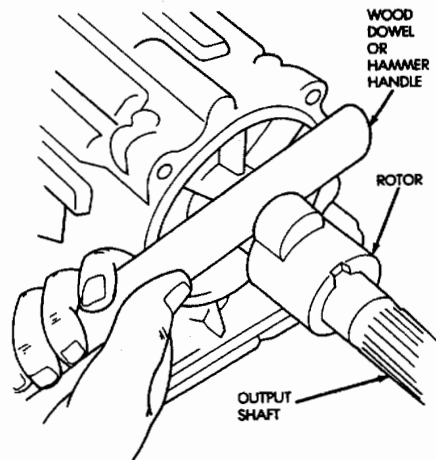

Fig. 6 Removing Speed Sensor Rotor
(11) Remove speed sensor rotor and key. Use wood dowel or hammer handle to loosen and remove rotor (Fig. 6).